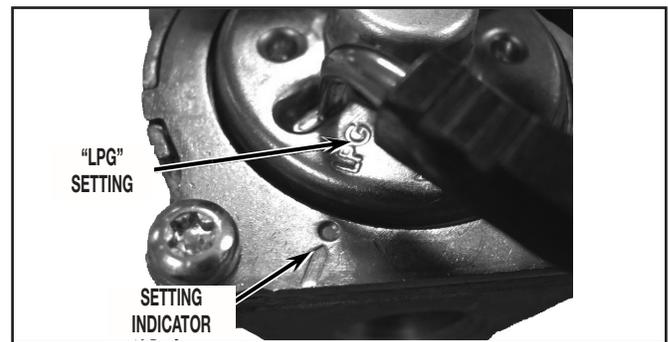

FIGURE 26
- Rotate cover dial 25 degrees counter clockwise lining up "LPG" marking with the indicator on the gas valve. See *Figure 26*.